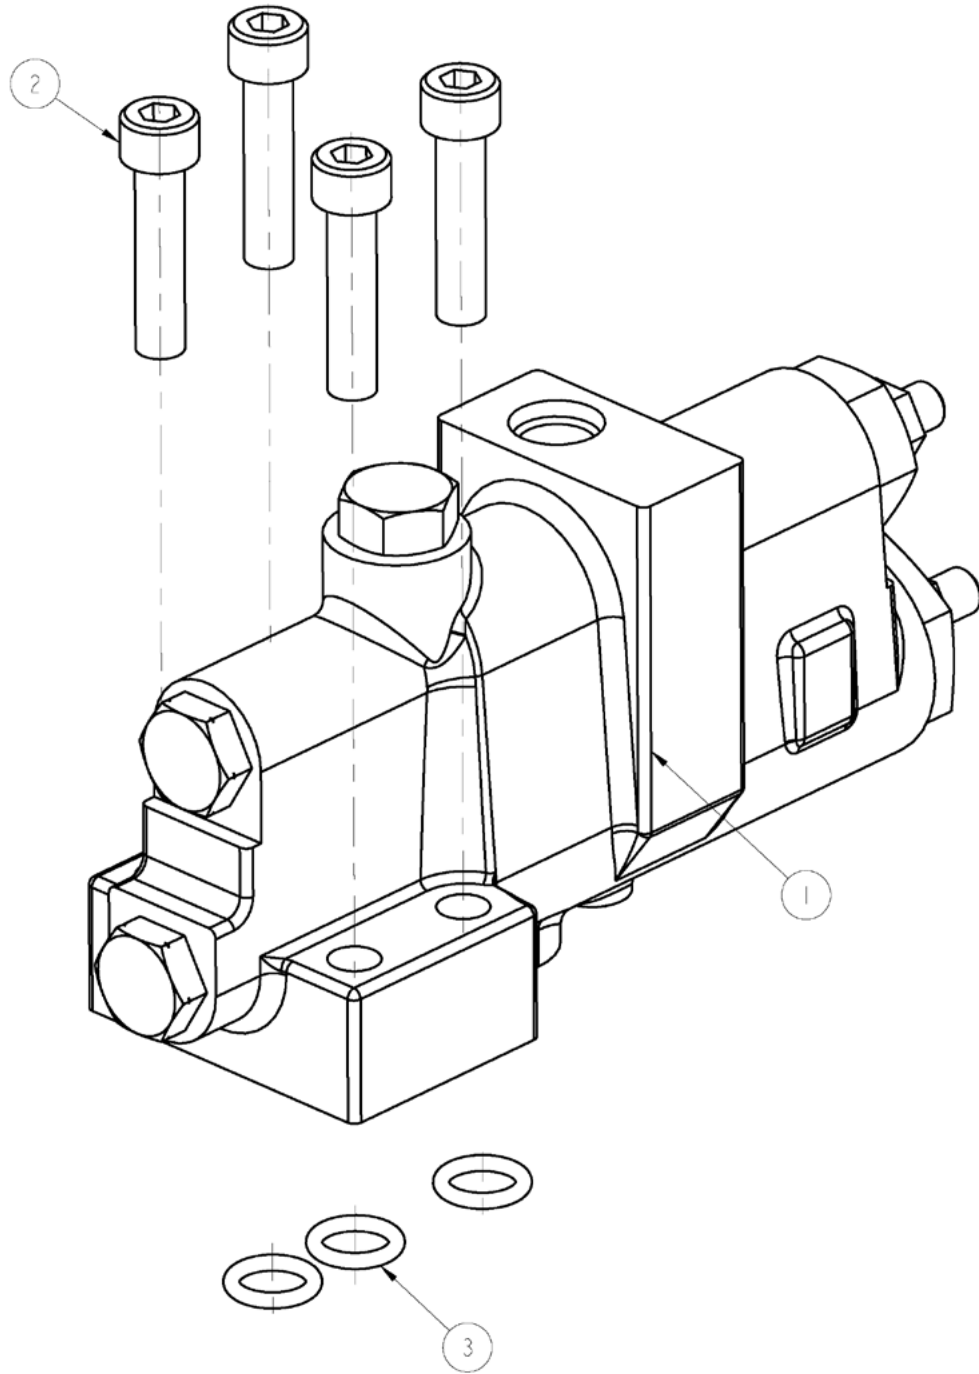

Figure 26
3. Remove the two screw plugs (Figure 26, item ⑰).
4. Take out the pressure compensator valve core (Figure 26, item ②) and the flow compensator valve core (Figure 26, item ⑮).
5. Remove the screw plug assembly (Figure 26, items ⑨ and ⑩), and take out the flow compensator spring seat (Figure 26, item ⑪), the flow compensator spring (Figure 26, item ⑫), and the limit pin (Figure 26, item ⑬).
6. Remove the screw plug assembly (Figure 26, items ⑥ and ⑤), and take out the pressure compensator spring seat (Figure 26, item ④) and the pressure compensator spring (Figure 26, item ③).
7. Remove the upper screw plug (Figure 26, item ⑭) and the damping plug (Figure 26, item ⑱).
1. Install the pressure compensator valve core (Figure 26, item ②) and the flow compensator valve core (Figure 26, item ⑮), with the round heads facing inward. The pressure compensator valve core has more ring grooves and is longer, while the flow compensator valve core has fewer ring grooves and is shorter. ⑮
2. Install two screw plugs (Figure 26, item ⑰) and tighten them with a torque of 29 - 32 Nm.
3. Insert the flow compensator spring seat (Figure 26, item ⑪), the flow compensator spring (Figure 26, item ⑫), and the limit pin (Figure 26, item ⑬). ⑫
4. Install the screw plug assembly (Figure 26, items ⑨ and ⑩), and tighten it with a torque of 75 - 83 Nm.
5. Insert the pressure compensator spring seat (Figure 26, item ④) and the pressure compensator spring (Figure 26, item ③).
6. Install the screw plug assembly (Figure 26, items ⑥ and ⑤), and tighten it with a torque of 97 - 106 Nm. ③
7. Install the upper screw plug (Figure 26, item ⑭) and tighten it with a torque of 29 - 32 Nm.
8. Install the damping plug (Figure 26, item ⑱) and tighten it with a torque of 1.7 - 2.3 Nm.